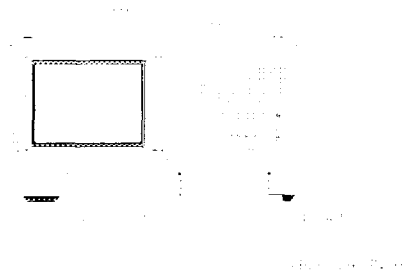

Figure 4-35. Test Port Phase Compression Test Setup
- 1 Connect the equipment as shown in Figure 4-35.